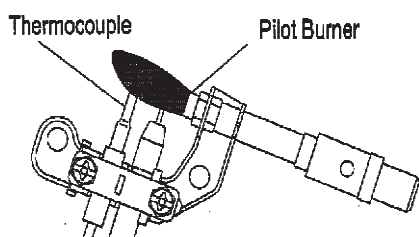
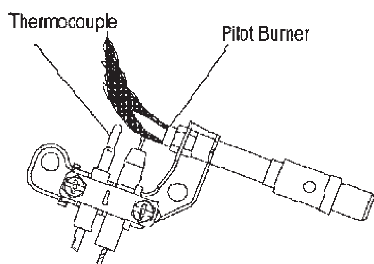
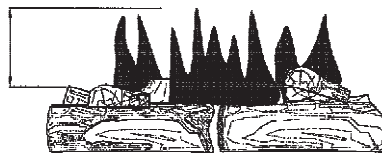

Figure 15 -Correct Pilot Flame Pattern
Figure 16 -Incorrect Pilot Flame Pattern
Figure 18 -Incorrect Flame Pattern with Control Knob Set to High Flame
1. Press the IGN/OFF button.(see figure 15)
Figure 15 shows a correct pilot flame pattern. Figure 16 shows an incorrect pilot flame pattern. The incorrect pilot flame is not touching the thermocouple. This will cause the thermocouple to cool. When the thermocouple cools, the heater will shut down. If pilot flame pattern is incorrect, as shown in Figure 18
Figure 17 shows a correct burner flame pattern. Figure 18 shows an incorrect burner flame pattern. If burner flame is incorrect: